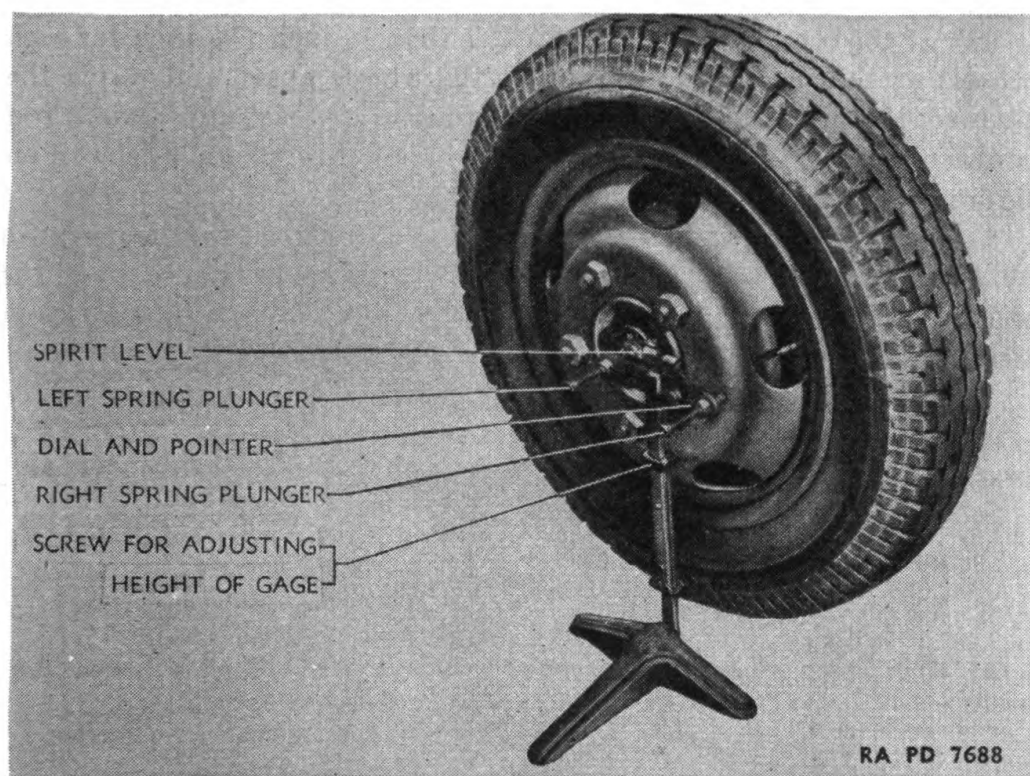
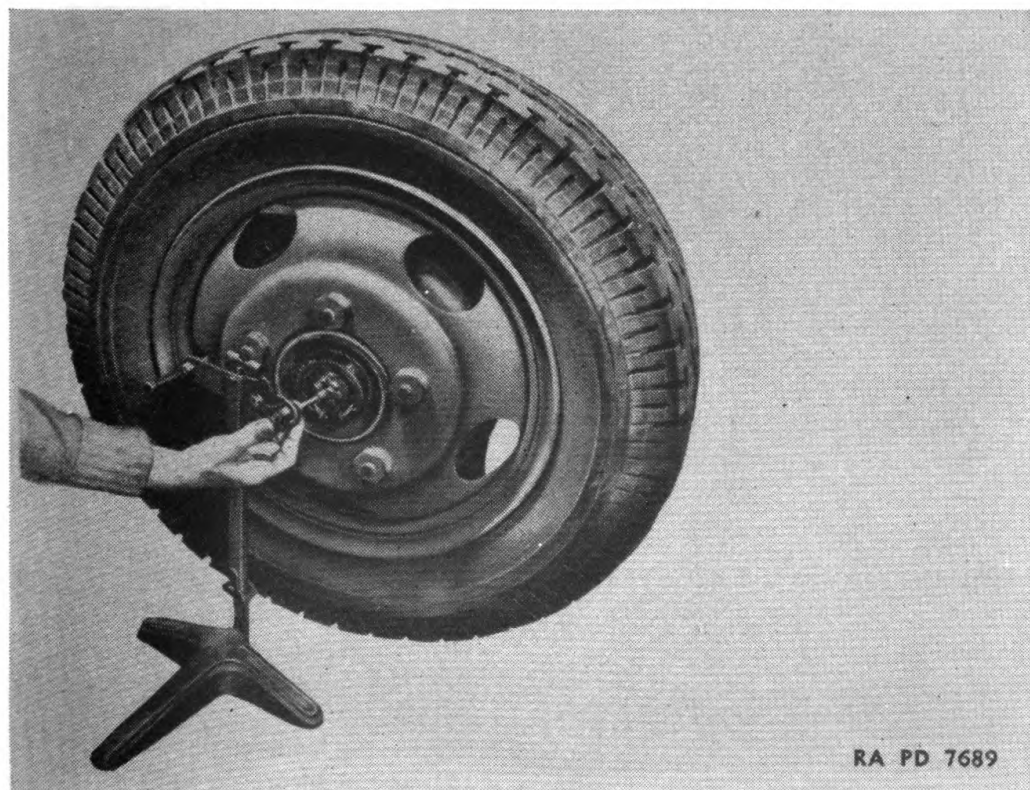

FIGURE 8.—Caster gage w/left spring plunger in wheel spindle lathe center.
FIGURE 9.—Caster gage w/right spring plunger in wheel spindle lathe center for gage reading.
*d. Checking caster.*—Jack up the front axle so that the wheels clear the floor. Set the wheels in straight-forward position. Remove the hub caps from the front wheels and place the caster gage against the wheel, being sure that the gage is level according to the spirit level. Adjust the gage so that its left spring plunger seats into the lathe center at the end of the wheel spindle (fig. 8). Swing the wheel spindle around so that the right spring plunger will seat into the same lathe center (fig. 9). To do this the right plunger will have to be adjusted, due to the caster angle, thus causing the scale pointer to indicate the caster angle in degrees. The fact that the front wheels are jacked up must be taken into consideration when reading the caster angle. Deduct  $\frac{3}{4}^{\circ}$  from the reading on the gage to obtain the actual caster angle. Replace bent parts if caster is incorrect.